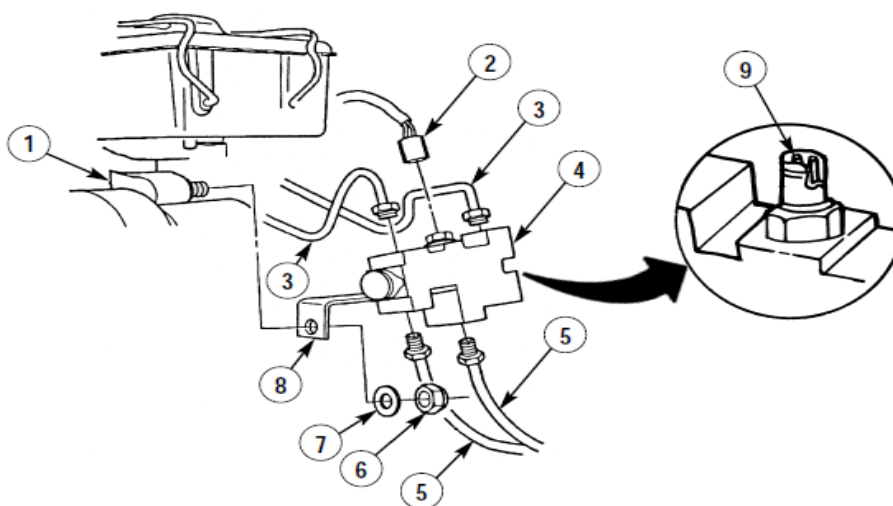

Figure 71
jj. Final Inspection / General Information. Refer to TM 9-2320-387-24-1 Chapters 1 and 2 and **Figures 71** through **73** contained in these instructions.
(1) Differential Valve and Mount:
- (a) Inspect to ensure that the Differential Valve (4), which is mounted to the Differential Valve Mounting Bracket (8) as shown in **Figure 71**, does not come into contact with the face plate on the front of the 400 Amp Alternator.